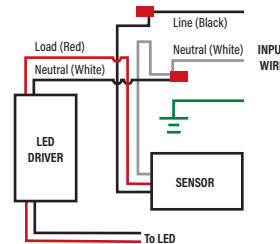
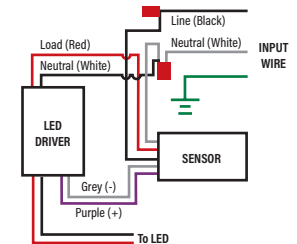

Fig. 8
Fig. 9
**Step 3:** Make wiring connections as shown in Fig. 8 or Fig. 9.